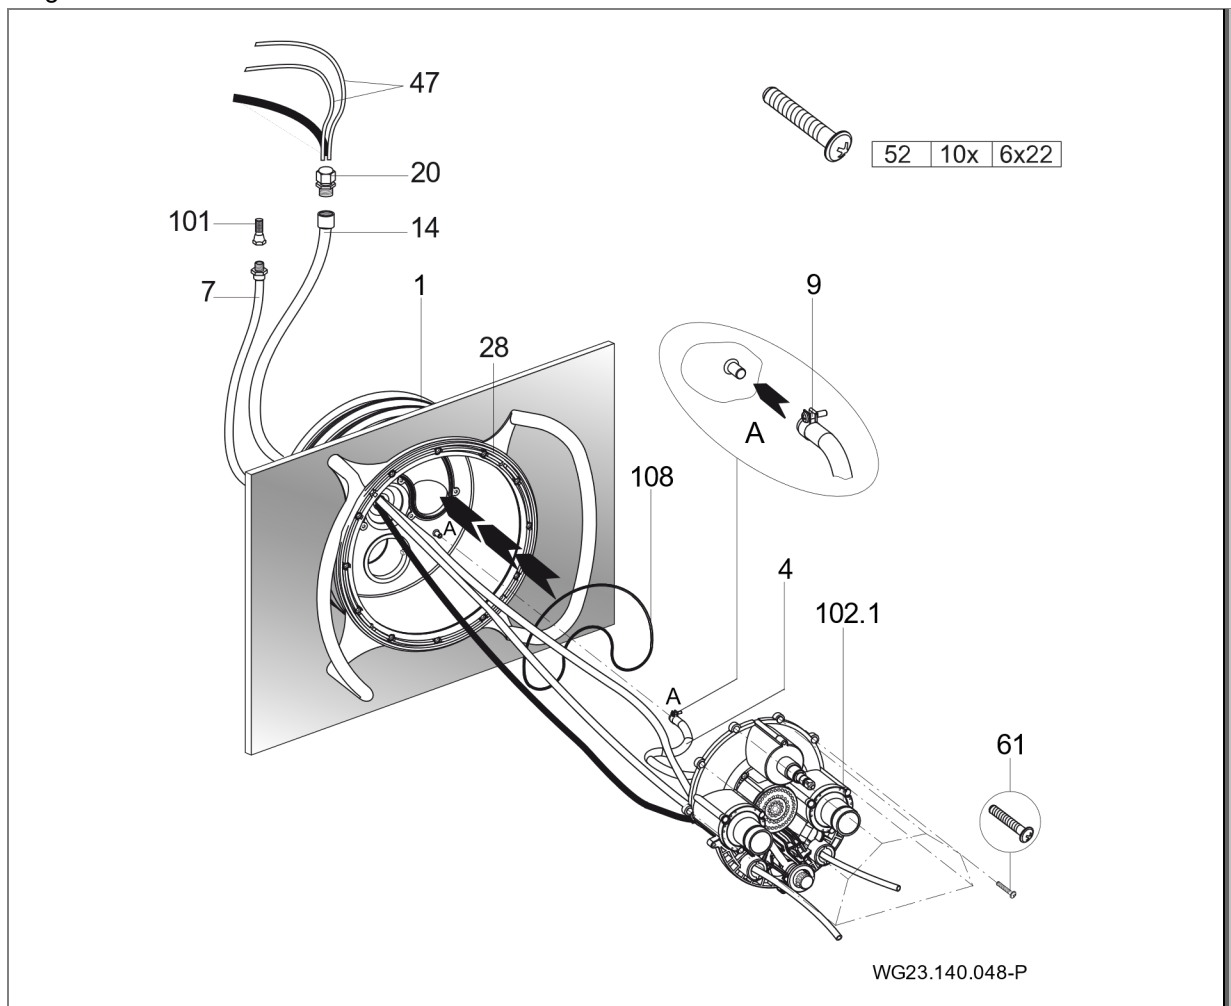

Fig. 18
2. Insert the O-ring (108) in the main housing (1). (Fig. 18)
3. Screw the ten enclosed tapping screws (61) into the nozzle housing. Place the pre-assembled nozzle housing (102.1) onto the main housing (1). (Fig. 18)
4. Feed the pneumatic hoses or cables of the Piezo buttons through the lower or outer openings of the nozzle housing (102.1); light ON/OFF left; pump ON/OFF right. (Fig. 18)
5. Feed the pneumatic hoses (47) or cables of the Piezo buttons and cables of the spotlight through the protective hose (14) and seal with the cable gland (20). (Fig. 18)
6. Fasten the internal air line (4), which is already completely pre-assembled at the nozzle housing (102.1) or air regulator, to the main housing (1) with the hose clamp (9). (Fig. 18)